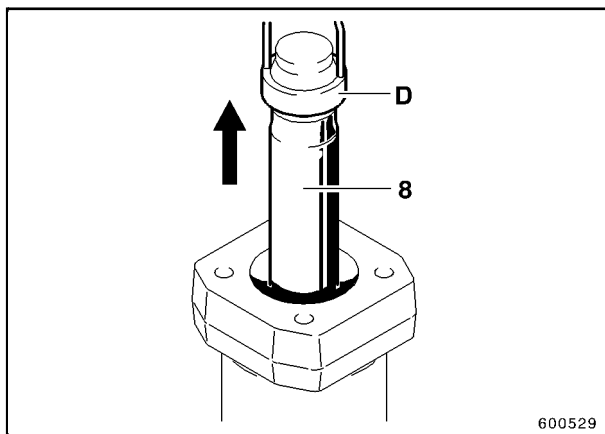

Fig. 15
- Attach piston rod (8, Fig. 15) with fitting ring (D) to lifting tackle, withdraw carefully from cylinder barrel and place on a suitable working surface.